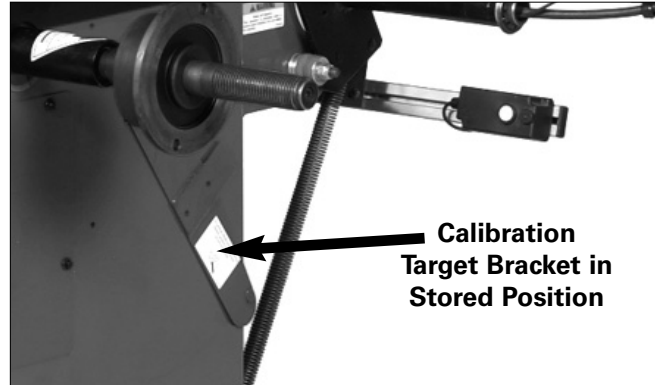

Figure 51- Sonar Target Bracket in Stored Position
**Note:** The sonar calibration target bracket is stored flush with the side of cabinet at all other times, see figure 51.